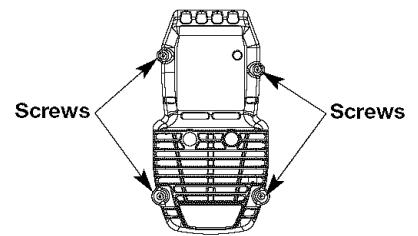

Fig. 14
1. Remove the four (4) screws securing the air filter/ muffler cover (Fig. 14). Use a flat blade or T20 Torx bit screwdriver.
2. Insert the four (4) screws into the holes in the air filter/muffler cover (Fig. 14) and tighten. **Do not over tighten.**